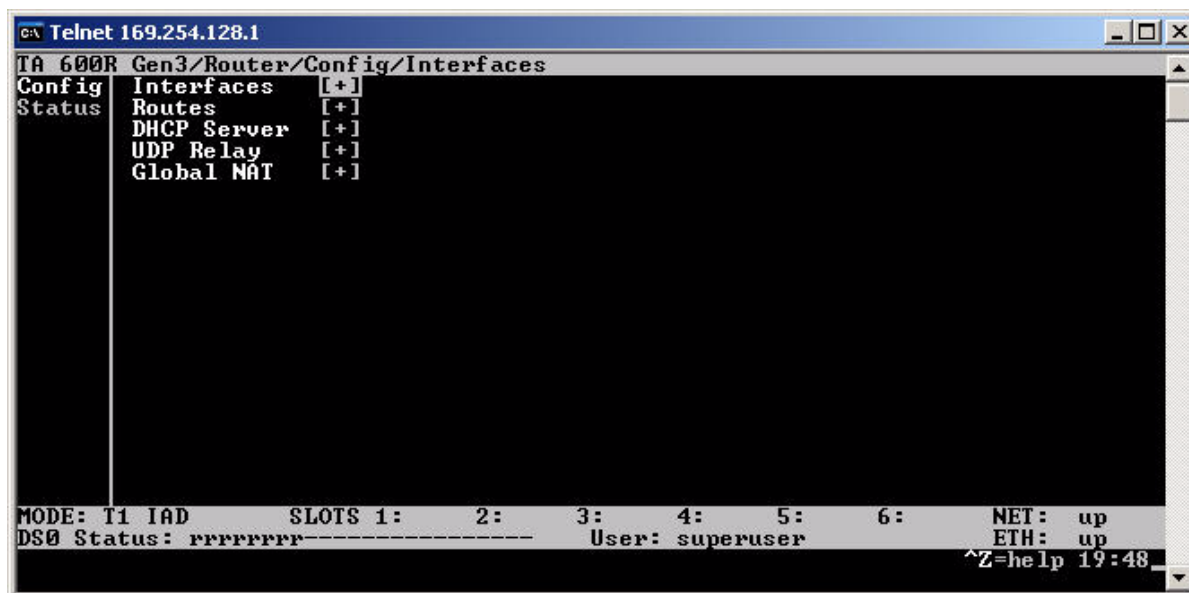

Figure 92: Config Interfaces
6. Press **Enter** to display more options as shown in Figure 92 .